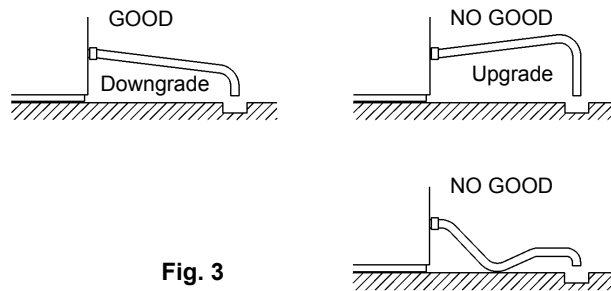

Fig. 3
- \* To prevent a backflow into the Storage Bin, the outlet hose must be laid as shown in Fig. 3.
3) Attach grey flexible outlet hose (accessory) to the R3/4 fitting on the rear of the icemaker as indicated, confirming fitment of rubber washer before finally hand tightening the joint. This pipe can be cut to length as necessary to suit position of main drain (Fig. 3).